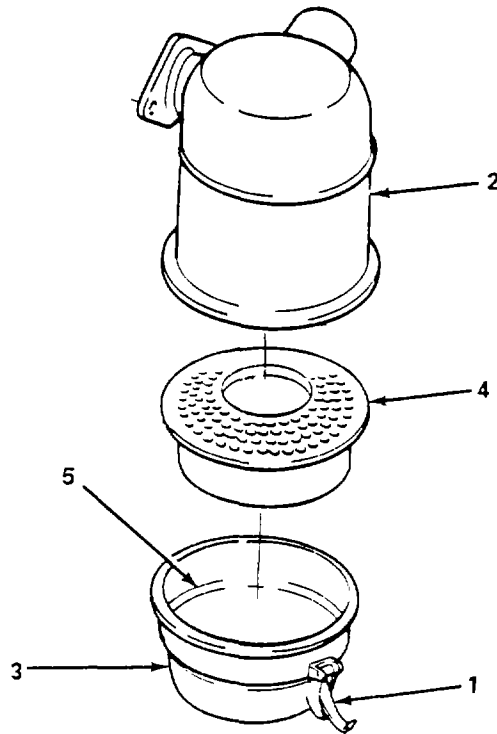

Figure 4-3. Servicing Engine Oil Bath Air Filter.
e. Oil Bath Air Filter. (figure 4-3)
- (1) The oil bath air filter must be checked at 10 hour intervals of operation.
- (2) Release two clips (1) on the side of the filter housing (2).
- (3) Separate the bowl (3) and metal filter (4).
- (4) Pour engine oil out of bowl.
- (5) Clean bowl and metal filter with clean diesel fuel.
- (6) Fill bowl (3) with engine oil, item 16, Appendix E, to the oil level mark (5).
- (7) Place metal filter (4) into bowl (3).
- (8) Mate bowl (3) to filter housing (1) and secure clips.